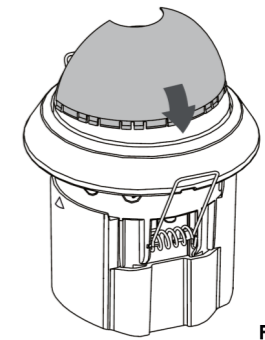

FIG. 11
4.3.2 Fixing lens shield: There is circular hook on the back of the decorative frame and the lens shield is designed with a circular groove. The lens shield can be fitted by joining the groove of lens shield with is corresponding hook on the decorative frame (See FIG.11).